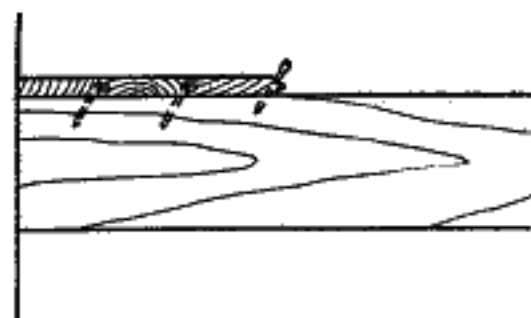

FIG. 76.—Draw nailing. Driving the nails at an angle helps to draw the boards tightly together.
77. Draw Nailing.—Where it is desired to make a tight joint between two boards, as between two pieces of tongue-and-grooved flooring, the nail may be driven at an angle with the surface, as shown in Fig. 76. The nail then has a drawing effect as it is driven up, making a tight joint.